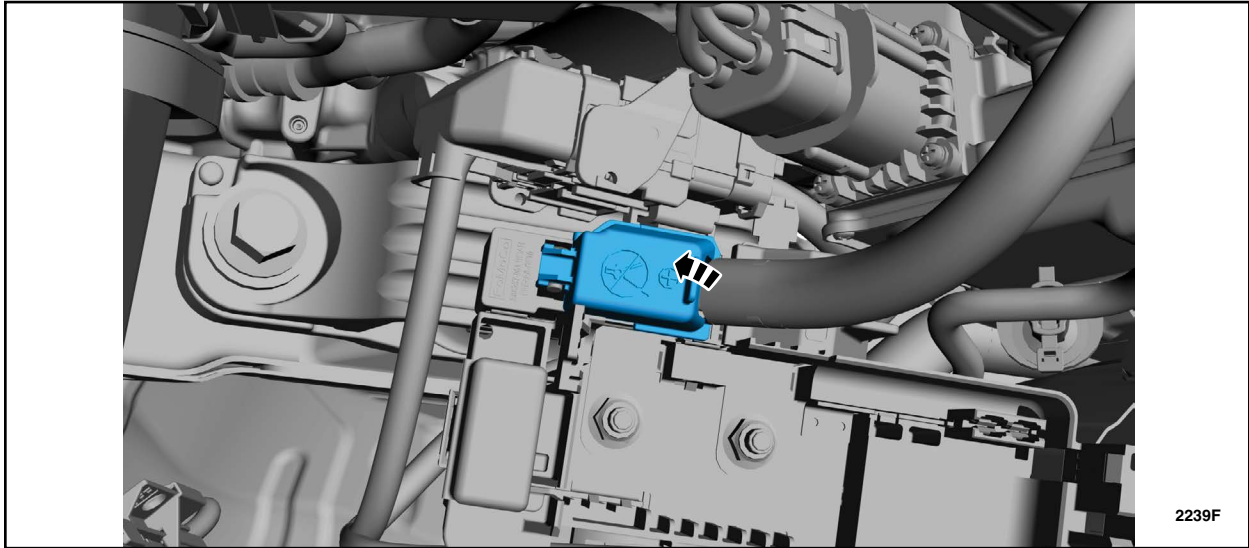

FIGURE 6
10. Remove the power cable terminal cover. See Figure 6.